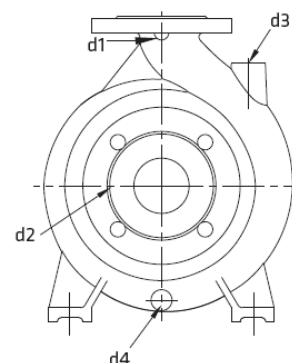

Fig.4
- Every pump is fitted with connection on the pump casing to drain the pump (Fig. 4). If required the pump drain can be piped to a suitable reservoir. The pump draining piping must be fitted with an isolating valve and both must be suitable for the maximum operating pressure of the pump.